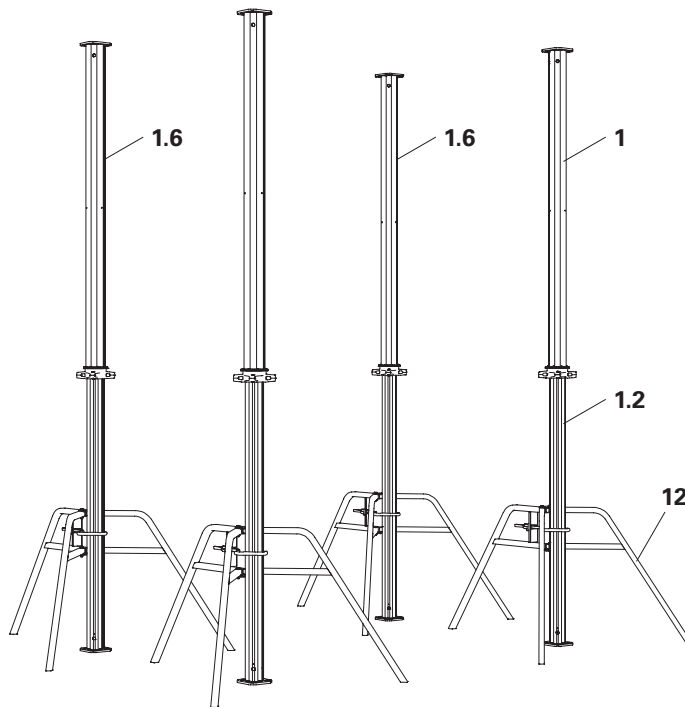
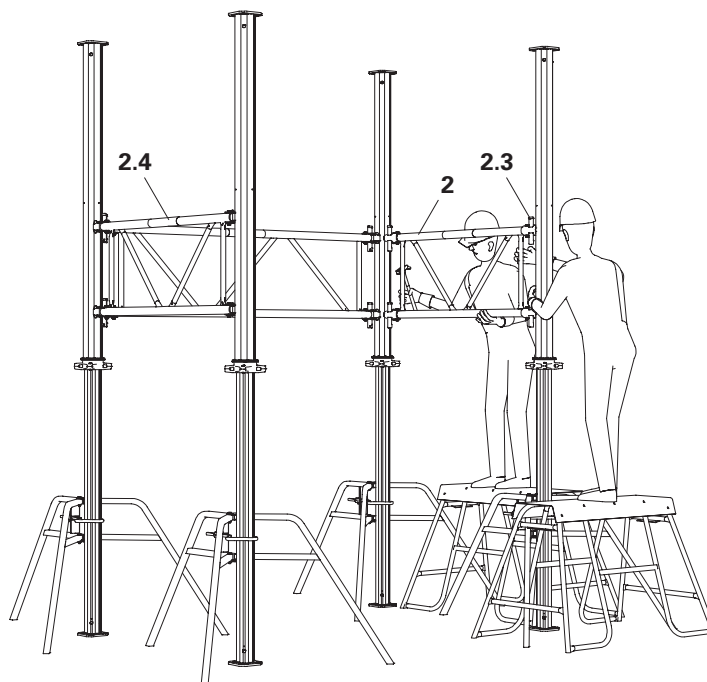

Fig. A4.01
Fig. A4.02
1. Set up the MULTIPROP MP (1):
- Use the universal tripod Ø57-120 mm (12) as an assembly aid.
- Set up the MULTIPROP MP (1) according to the dimension between the Frames MP MRK (2) to be installed.
- The measuring scale (1.6) is pointing inwards. (Fig. A4.01)
2. Install Frames MP MRK (2), see Section "A3 Horizontal assembly" on page 24:
- Place Frames MP MRK (2) at the designated positions, see plan or type test.
- Securely fix the wedges (2.3) with a hammer blow from top to bottom. (Fig. A4.02)